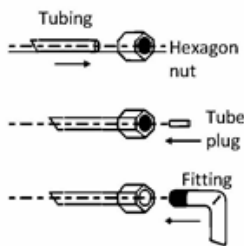

Fig. 5 JACO Fitting
2. JACO Fitting: See Fig. 5. Slide compression (hexagon) nut onto tubing, insert tube plug into tubing. Insert tubing into the opening of fitting and screw on the compression nut tightly.